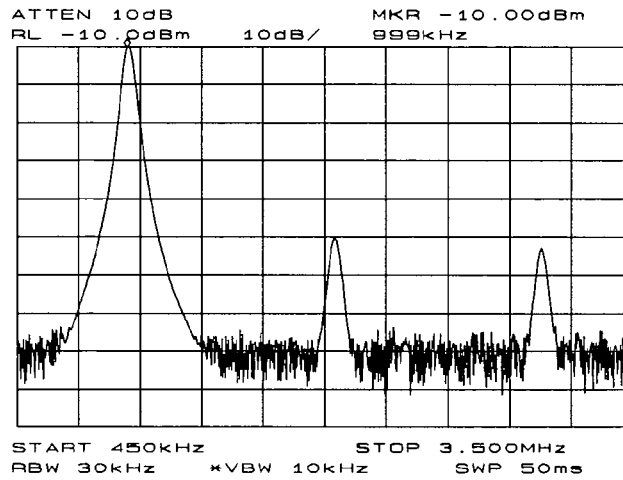
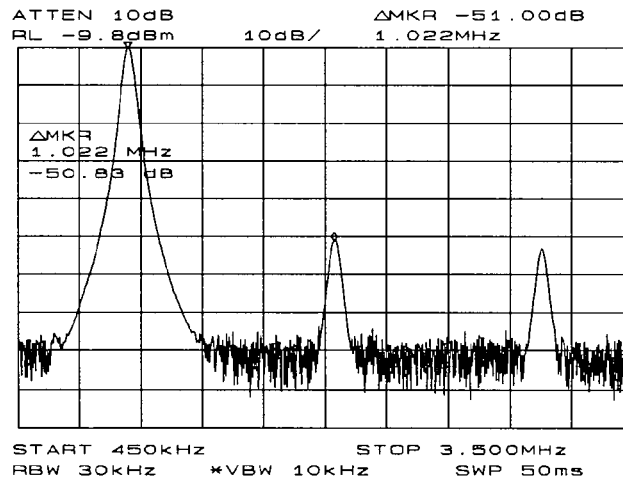
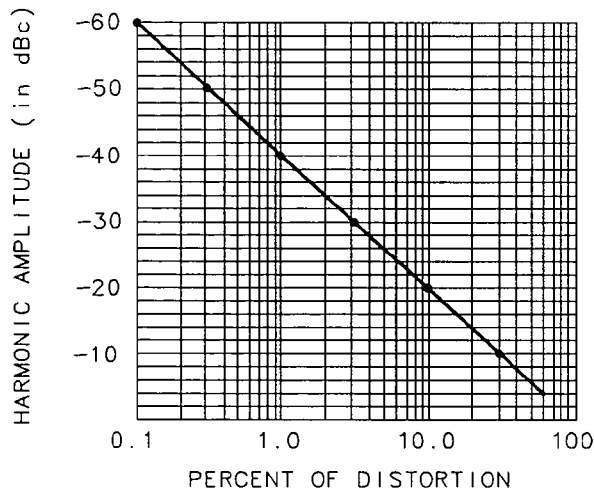
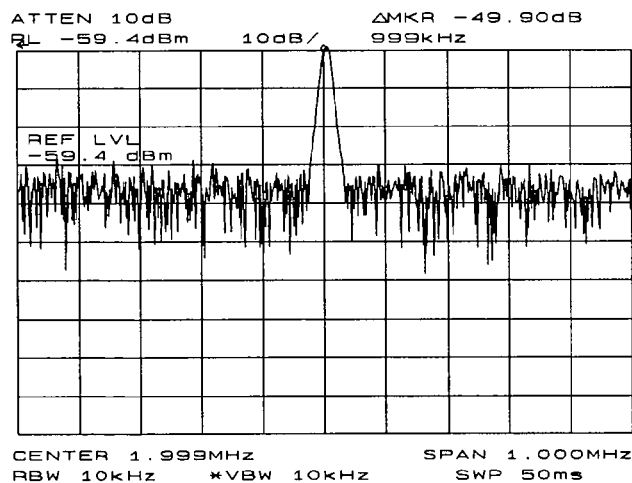

Figure 3-2. Peak of signal is positioned at reference level for maximum accuracy.
Figure 3-3. Harmonic distortion measured in dBc. Marker threshold set to -70 dB.
Figure 3-4. Percentage of Distortion versus Harmonic Amplitude
Figure 3-6. Second Harmonic Displayed in dBc
2. For greatest measurement accuracy, raise the peak of the fundamental to the reference level by pressing **PEAK SEARCH**, **MKR ->**, and then **MARKER -> REF LVL**. This is shown in Figure 3-2. In order to place a second marker on the second harmonic, set the peak threshold above the noise by pressing **PEAK SEARCH**, **MORE 1 OF 2**, and **PEAK THRESHLD**. Adjust the dashed line to a level above the noise using either the step keys or the knob. To activate a second marker, press **PEAK SEARCH**, **MARKER DELTA**, and **NEXT PK RIGHT**. This places the anchor marker on the fundamental, and a second marker on the peak of the second harmonic as shown in Figure 3-3. The difference in amplitude between the fundamental and second harmonic shown in the figure is approximately -50 dB, or 0.33 percent harmonic distortion (see Figure 3-4). To measure the third harmonic, press **NEXT PK RIGHT** again. Continue reading amplitudes and comparing them to Figure 3-4 for each additional harmonic you wish to measure. **PEAK EXCURSN** defines what is and is not a peak; the next-peak routines find the corresponding peak.
- To measure the second harmonic, press **MKR**, **MARKER DELTA**, **FREQUENCY**, and the step up **▲** key. This step retunes the spectrum analyzer center frequency to the second harmonic. Adjust the harmonic to the reference level. (Note that the **MARKER → REF LVL** function is not available in marker-delta mode.) This displays the amplitude of the second harmonic as shown in Figure 3-6. The difference between the second harmonic and the fundamental can be converted to a percentage of distortion using Figure 3-4. Again, units can be changed to volts in order to read the voltage ratio of the two signals.